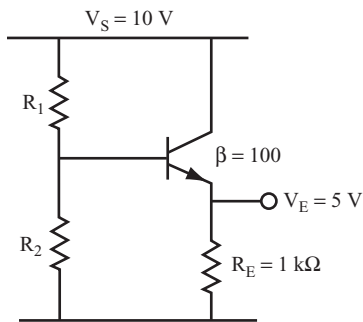

FIGURE 8.26
A simple design example illustrates this procedure. Use the values shown in the circuit in Figure 8.26 for this problem.
1. 5 volts (This was given in Figure 8.26.)
3. 1 k $\Omega$  (This was given in Figure 8.26.)